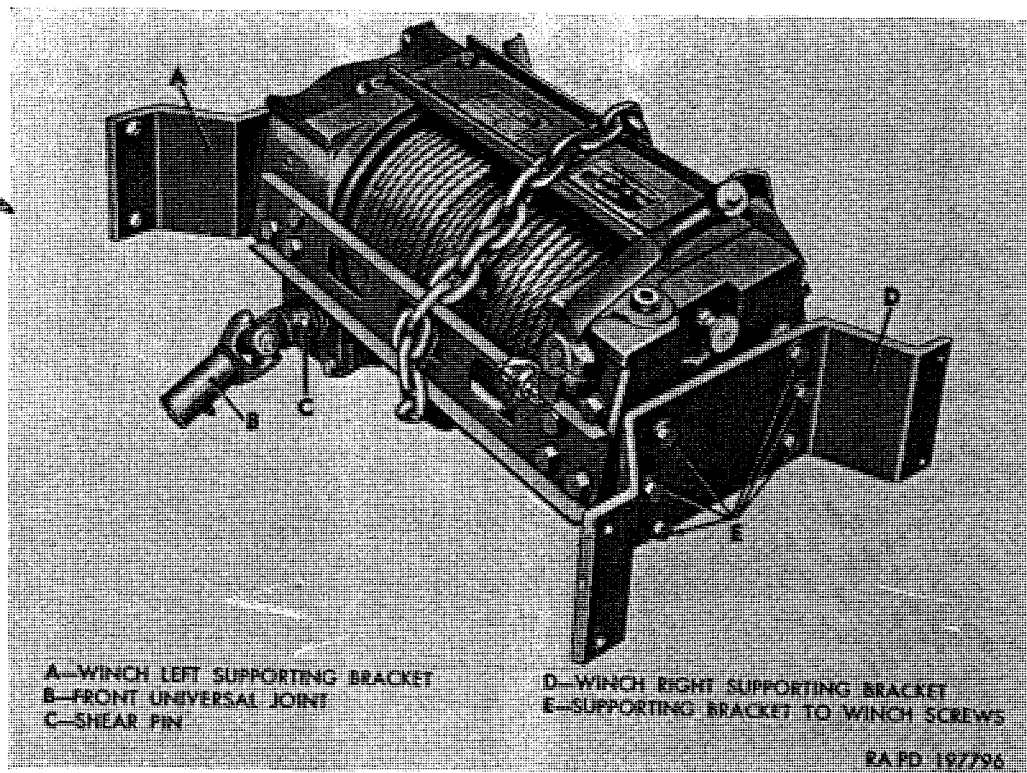

Figure 346. Winch assembly removed.
b. General. The winch assembly (fig. 346), which includes supporting brackets and drive shaft universal joint, can be replaced as an assembly. A suitable chain fall is required.
- (1) Remove front bumper (par. 285*b*).
- (2) Support winch with hoist.
- (3) Remove two nuts from inside of frame attaching each front tie-down U bolt to frame.
- (4) Remove four cap screws and nuts attaching each winch supporting bracket to frame side member.
- (5) Do not remove cap screws attaching winch supporting bracket spacer to frame.
- (6) While supporting winch with hoist, pull winch, with supporting brackets attached, toward front and out of frame side members.
- (7) Remove winch drive shaft universal joint from winch shaft by removing shear pin.
- (8) Supporting brackets can be removed from winch by removing six screws (E, fig. 346) and lockwashers from each side.
Note. The key letters noted in parentheses are in figure 346, except where otherwise indicated.